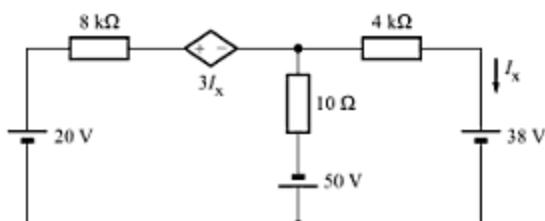

Fig. A-102
- A-66.** Determine the current  $I_x$  in the circuit of Fig. A-102.